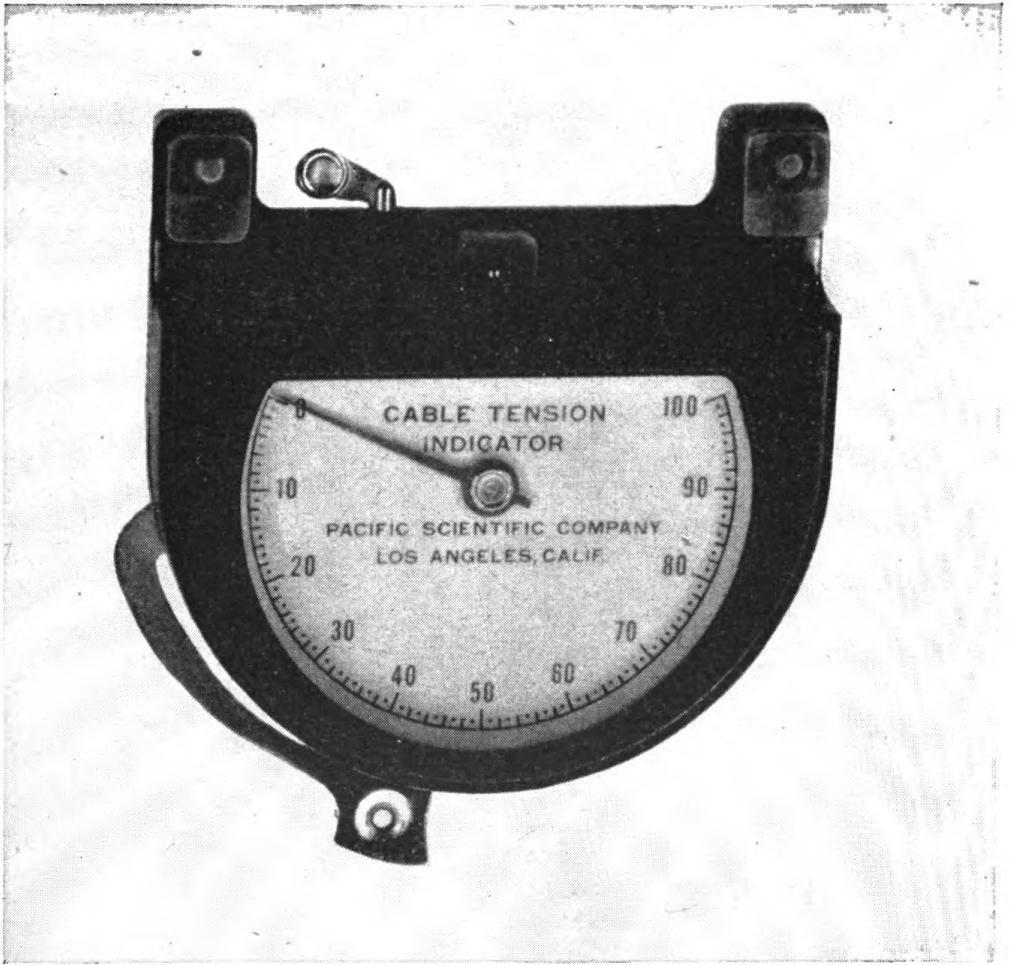

Figure 46. New type of tensiometer.
(3) A new type of tensiometer is shown in figure 46. This instrument is also used to measure the tension of control cables and will do the job faster than the old type. It also has the advantage of retaining the reading until reset to zero by the mechanic. The arm on the right side